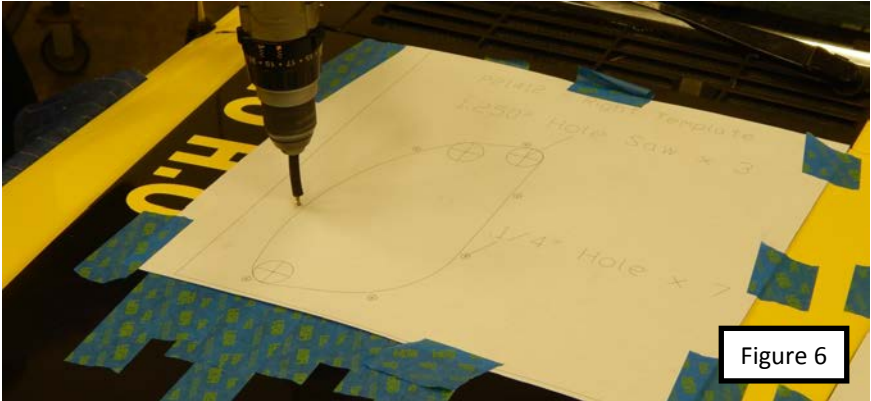

Figure 6
7. Drill the center punched holes with a 1/8" bit (Figure 6).